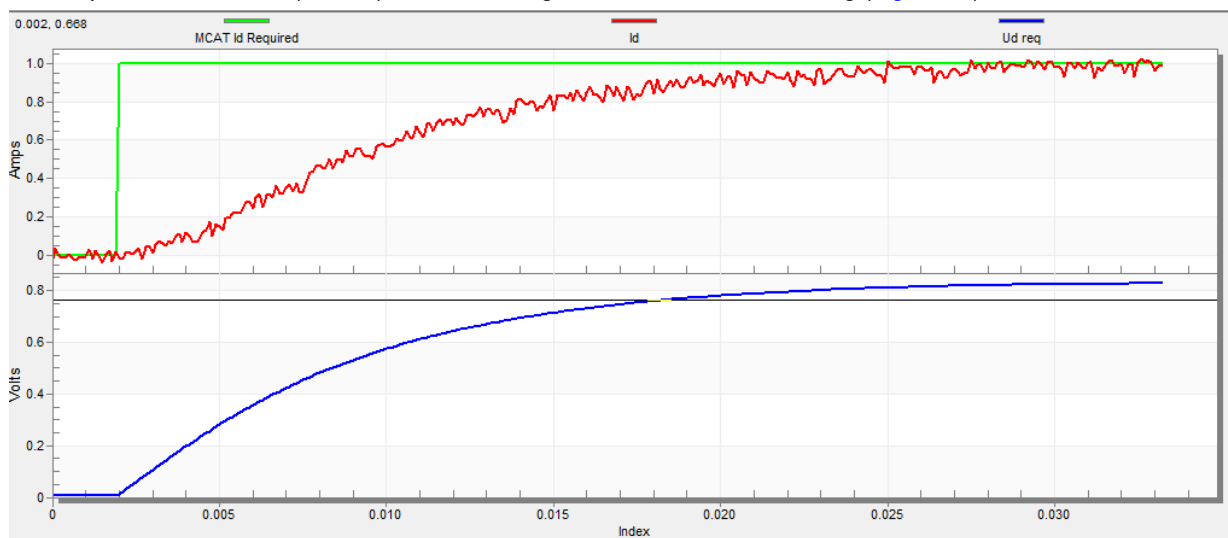

Figure 50. Slow step response of the Id current controller
- The loop bandwidth is low (110 Hz) and the settling time of the Id current is long (Figure 50).